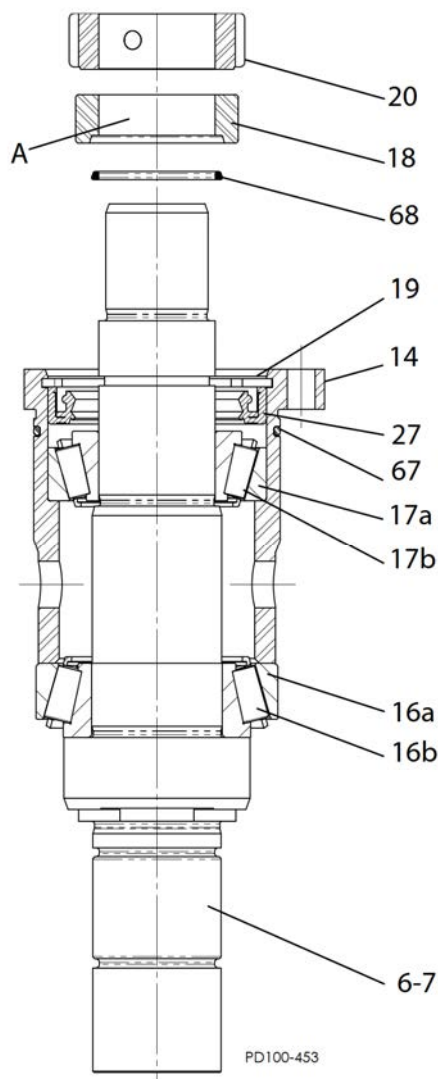

Fig. 47: Bearing Assembly
3. Install the front bearing cup (Figure 47, item 16a) onto the mounted cone (item 16b), followed by the bearing case (item 14).
4. Press the rear bearing cone (item 17b) onto the shaft and into the cone.
5. Press the rear seal (item 27) into the bearing case (item 14) with the primary lip facing away from the bearing and install the retaining ring (item 19). Orient the seal as shown and make sure it does not interfere with the bearing.
6. Install the O-ring (item 68) and seal sleeve (item 18) onto the shaft as shown in Figure 47. Orient the seal sleeve with the groove toward the bearing.
7. Install the bearing adjustment nut (item 20) and tighten "hand tight." Do not tighten the locking setscrews at this time.
8. Install the O-ring (item 67) into the groove of the bearing case (item 14).